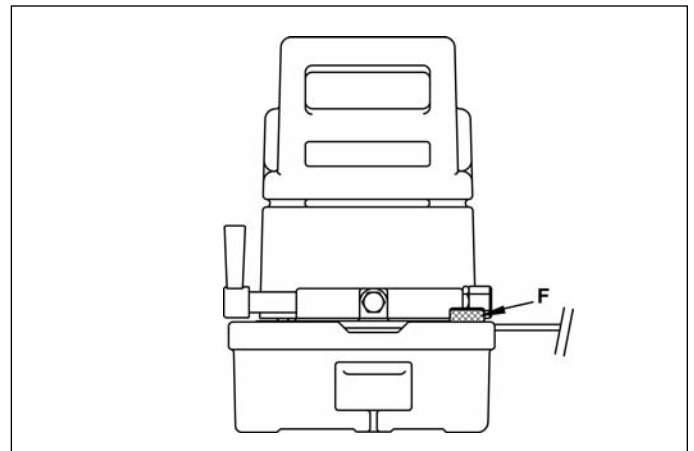

Figure 6
3. Mount the valve (3), taking care to avoid shearing the seals.
**4.3 Adding Oil (Figure 6)**